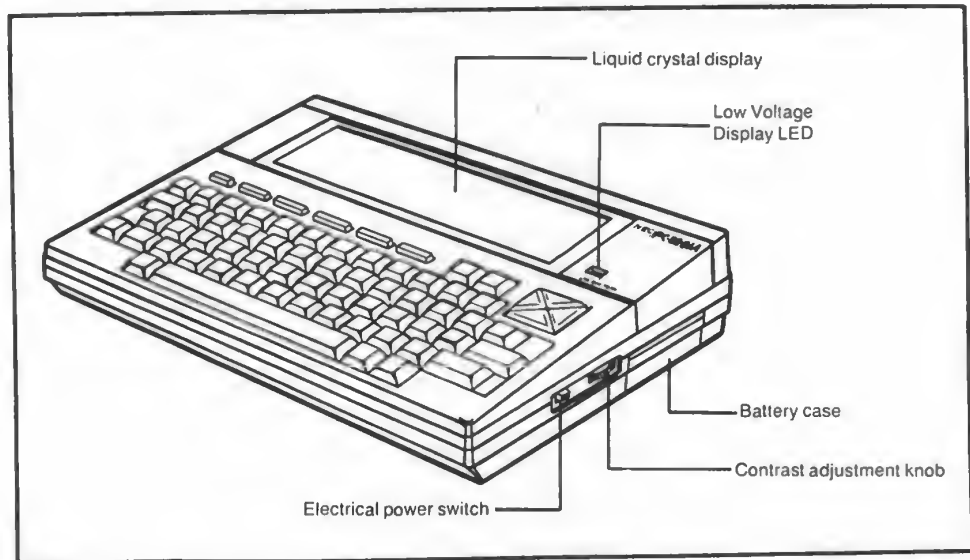

Fig. 1-3 The "Main Power" Switch and "Contrast" Control
3. Slide the 0 OFF - ON 1 main power switch to ON (Figure 1-3).
The CONTRAST control is also on the right-hand edge of the machine (Figure 1-3) and permits you to alter the LCD appearance to suit your taste and viewing angle. You can't hurt a thing by experimenting with various settings of this control. You will probably find that it needs to be adjusted when the NEC PC-8201A is moved from desk to lap.